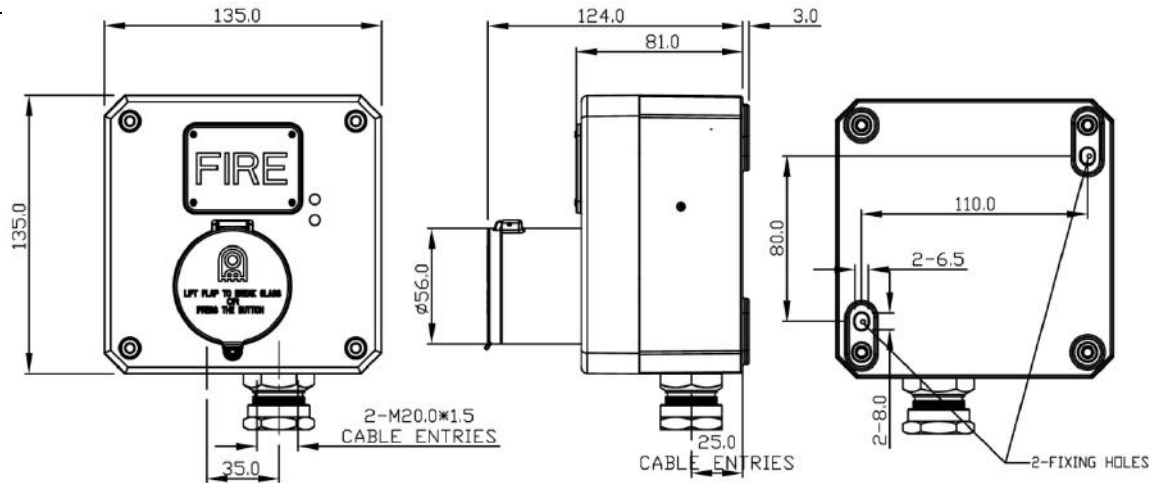

Fig 1
The product should be mounted on a vertical surface using two (2) fixing holes in the base by removing the end cover. The fixing holes are designed to fit M5 Allen Screw only. Use of stainless steel fastener is recommended by EX-TECH SIGNALLING SAS. If you need mounting plate, please contact EX-TECH SIGNALLING SAS to ask for the installation drawing of the mounting plate. (See Fig 1)